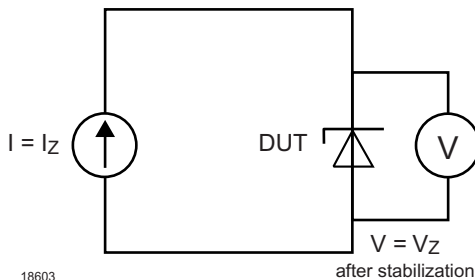

Figure 1.
**A)** When using a Zener Diode inside an application, most of the time this component is used as a voltage stabilizer meaning that the device is biased with a DC current. Measuring the Zener Breakdown voltage is simply operated with a current source and a Voltmeter as follow on figure1.